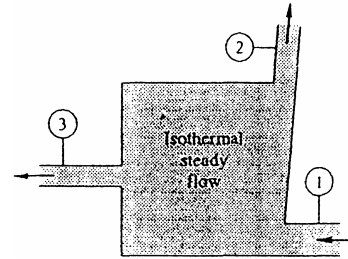

Fig. P3.126
3.126 Given a steady isothermal flow of water at 20°C through the device in Fig. P3.126. Heat-transfer, gravity, and temperature effects are negligible. Known data are $D_1 = 9$ cm, $Q_1 = 220$ m³/h, $p_1 = 150$ kPa, $D_2 = 7$ cm, $Q_2 = 100$ m³/h, $p_2 = 225$ kPa, $D_3 = 4$ cm, and $p_3 = 265$ kPa. Compute the rate of shaft work done for this device and its direction.